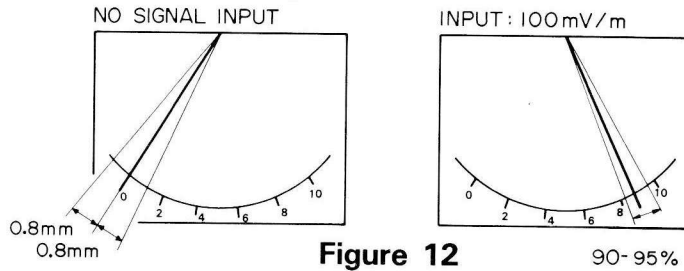

Figure 12
- (4) Check to be sure that the max. Meter reading point is also the point of minimum distortion. (See Figure 12.)